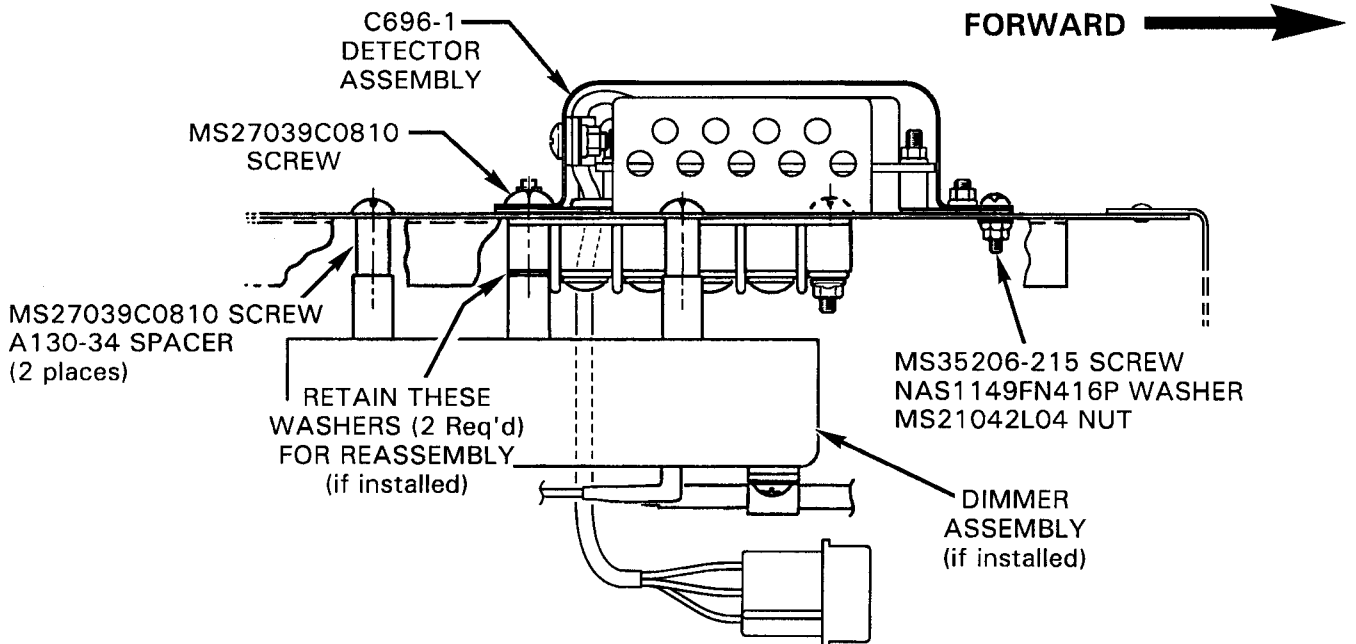

FIGURE 3: VIEW B-B FOR R44
14. Reference Figure 3 or 4, as appropriate. Insert C696-1 detector's harness thru 0.875 inch hole. Secure detector to console at forward screw position with hardware previously installed there. Use following screw with previously installed nut and washer in aft position: